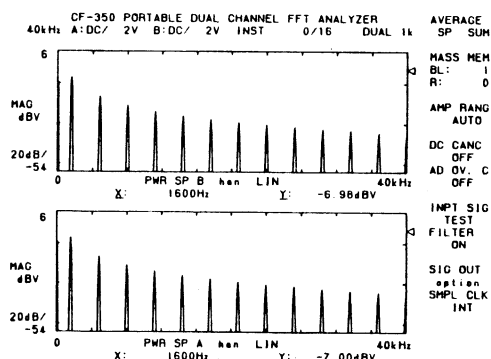

Fig. 2-2
3. Display the power spectrum (Fig. 2-2).
2. The Y-axis maximum value should be $-7.0 \text{ dB} \pm 0.2 \text{ dB}$ (Fig. 2-2)
3. The Y-axis values should be as shown in the table below for the X-axis values given for each frequency range (Fig. 2-2).